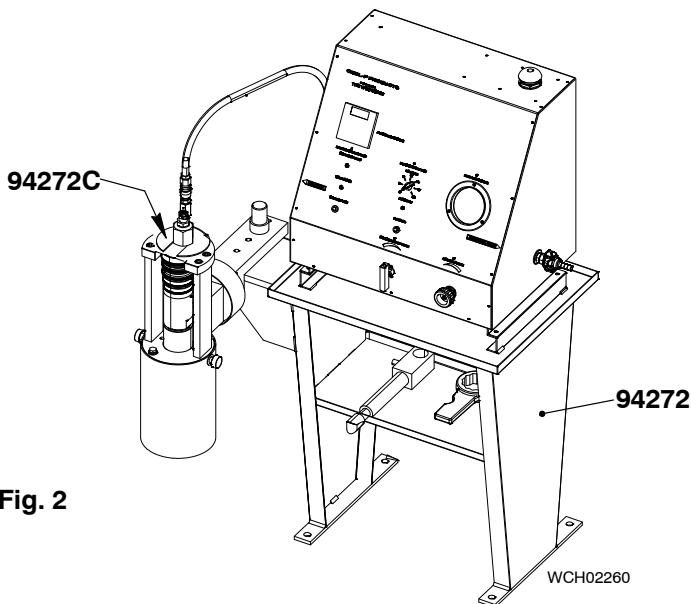

Fig. 2
- 3) Attach the valve holder (94272C), to the test bench (94272, see Fig. 2).
- 4) Attach the relief valve (2) to the valve holder (94272C).
- 5) Do a check of the blow-off pressure on the relief valve (2).
- 8) Remove the relief valve (2) from the valve holder (94272C).